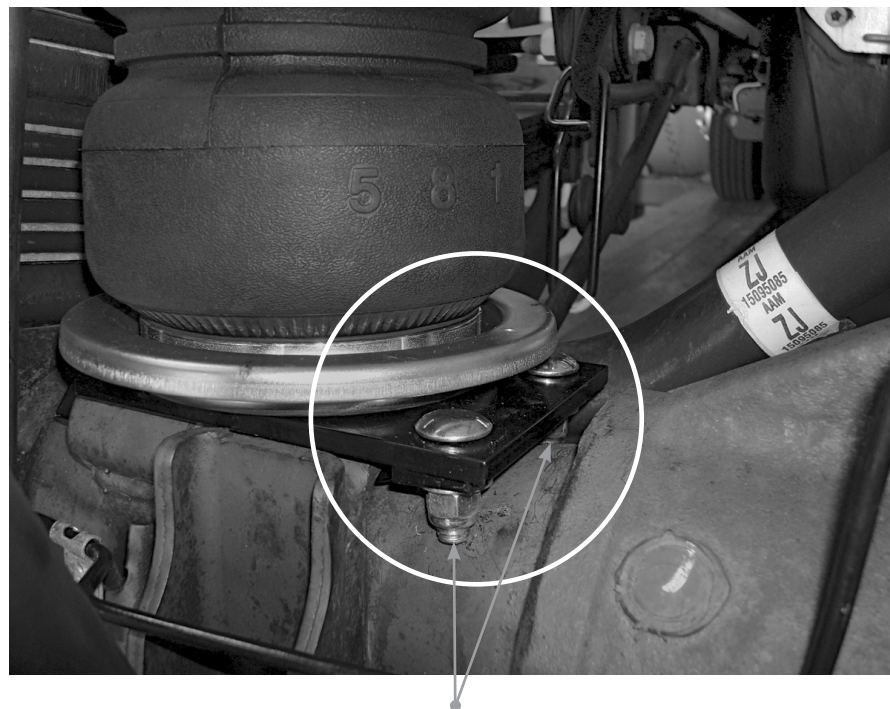

fig. 7
- While setting the lower bracket into position, insert the lower bracket carriage bolts into the holes in the clamp (E). Cap with two 3/8” flat washers (J) and nylon lock nuts (P) and tighten both nuts evenly until tight (Fig. 7).